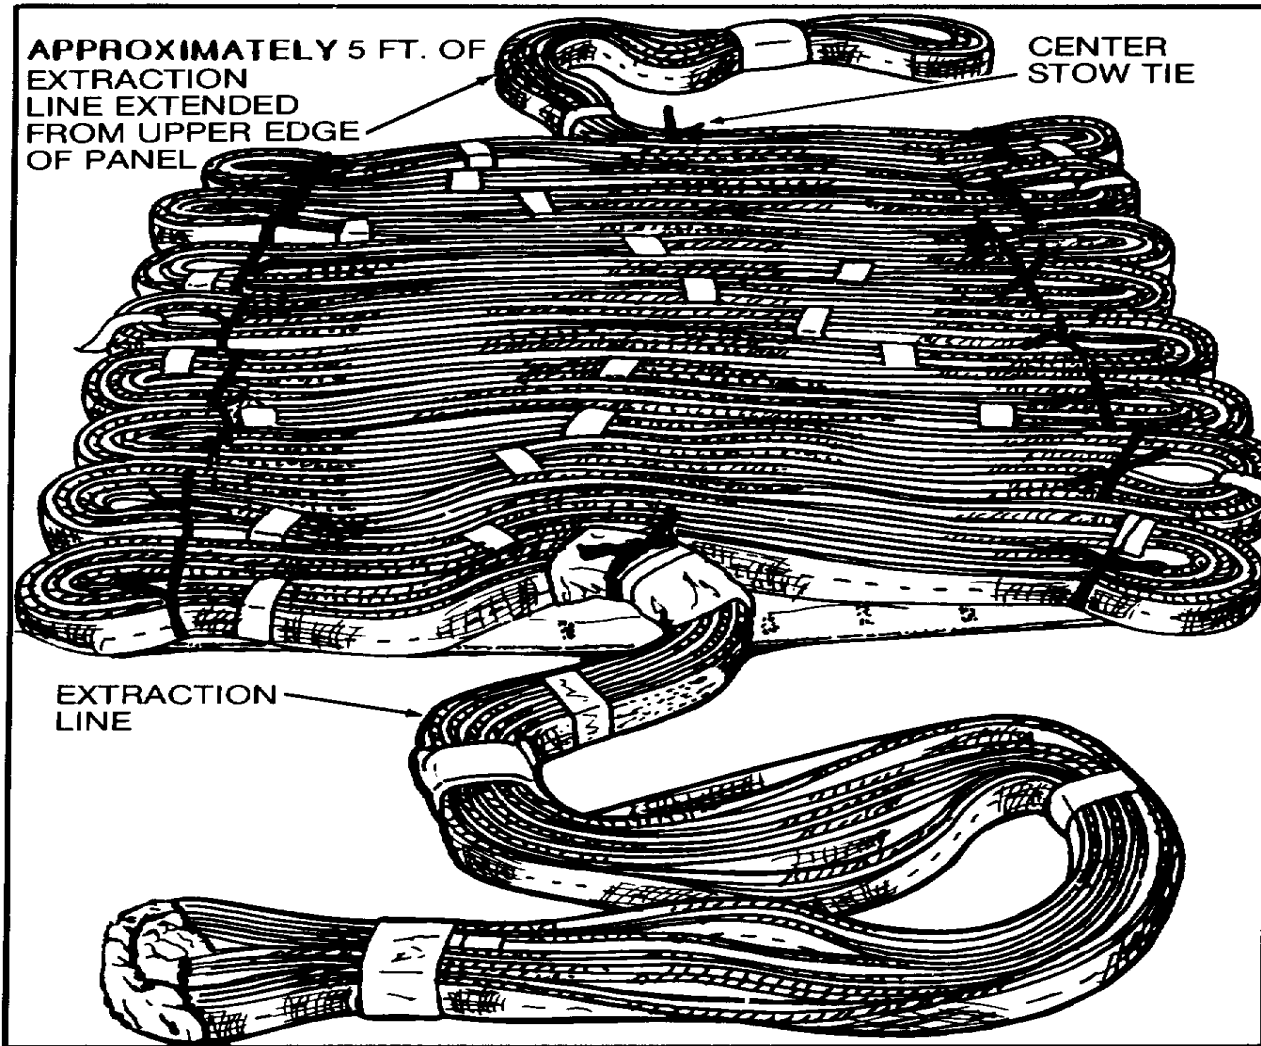

Figure 5. Extraction Line Stowed.
- e. Working from left to right, stow and secure the extraction line to panel. Make and secure last stow to center stow loop at upper edge of panel. Approximately 5-feet of extraction line should extend from upper edge after last stow is made (figure 5).